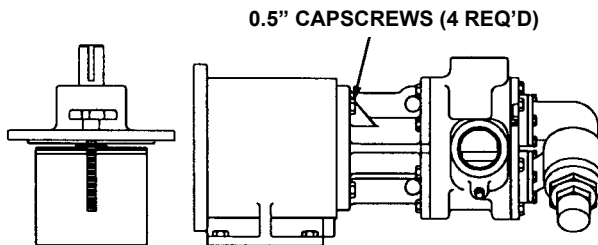

FIGURE 9
- Support pump with hoist and remove the (4) .5" capscrows. See Figure 9. Pull the pump out of the bracket; there will be some resistance to pull apart since the inner magnet assembly will be attracted to the coupling bracket. If further disassembly of the bearing carrier is required, refer to page 7. Since there will be some liquid left in the canister, be aware that liquid will run out when the canister separates from the pump. Remove canister if it has not already come off the pump.